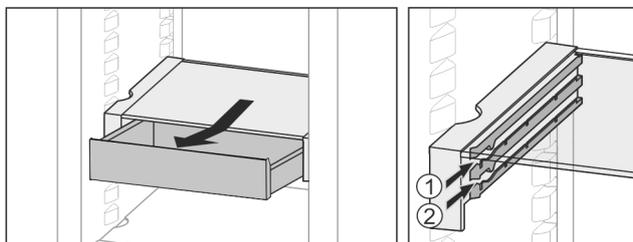

Fig. 25
- ▶ Slide in at any height Fig. 25 (1) or Fig. 25 (2).